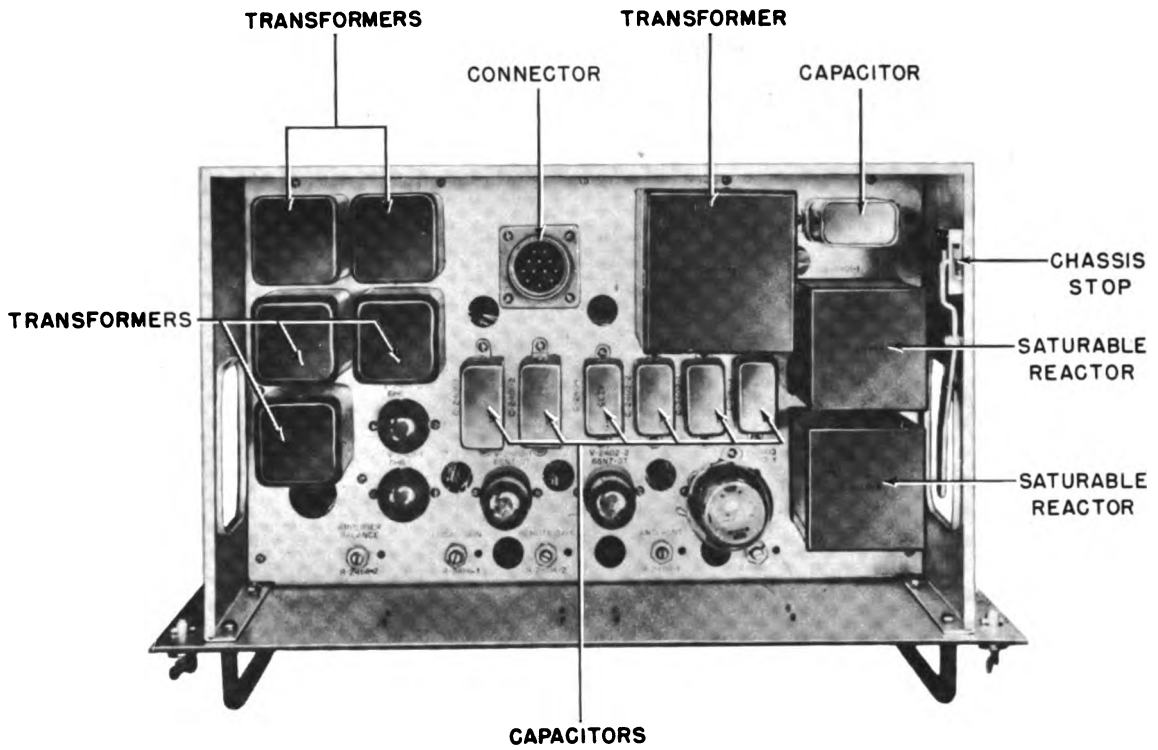

Figure 4-18. PPI servo amplifier, top view.
b. Maintenance Procedure (figs. 4-18 and 4-19).